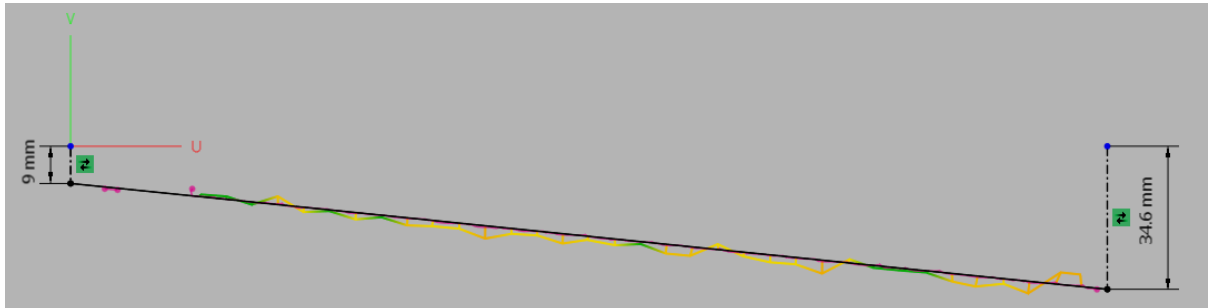

Figure 446
- ⦿ Dimension to match **Figure 446**.